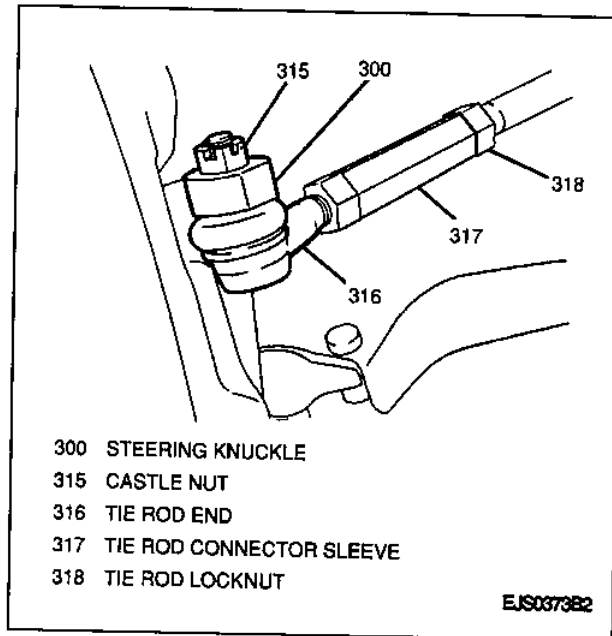

Figure 7—Tie Rod Connector Sleeve
5. Loosen tie rod locknut at connector sleeve (Figure 7).